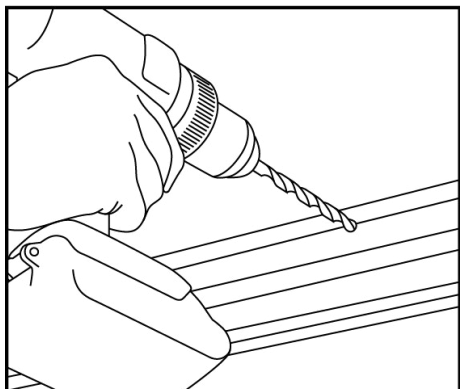

Fig.23
3. Drill through the roller tube using a 7/16" bit **(Fig.23)**.